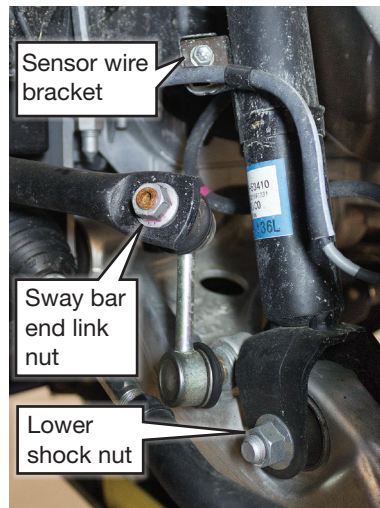

fig. D.1
1. Disconnect the end link from the sway bar (Fig. D.1). Remove the sensor wire bracket from the shock.
2. With the hub supported, remove the lower shock bolt and nut (Fig. D.1).